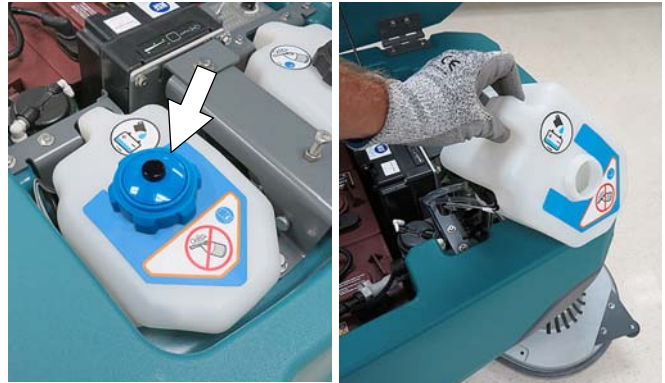

FIG. 151
5. Models equipped with optional automatic battery watering tank - Lift tank from machine and empty the water from tank (Figure 151).